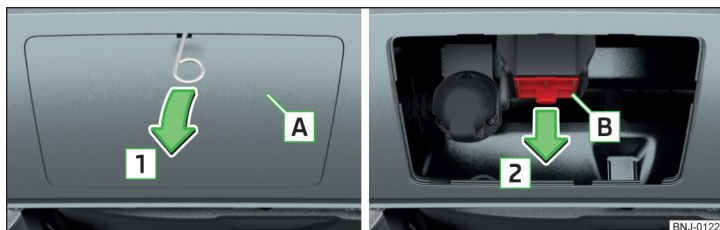

Fig. 133 Remove cap: on the rear bumper / for receiving shaft
- Remove the cover cap **A** » Fig. 133 in the direction of arrow **1** using the on-board tool clamp for pulling off the wheel trims » page 168.
Store the caps **A** and **B** » Fig. 133 in a suitable place in the luggage compartment after removal.
- Insert the cover **B** » Fig. 133 on page 131 in the opposite direction to arrow **2**.
- Fix the cap **A** » Fig. 133 on page 131 aligning it with "check mark" in the lower bumper area.